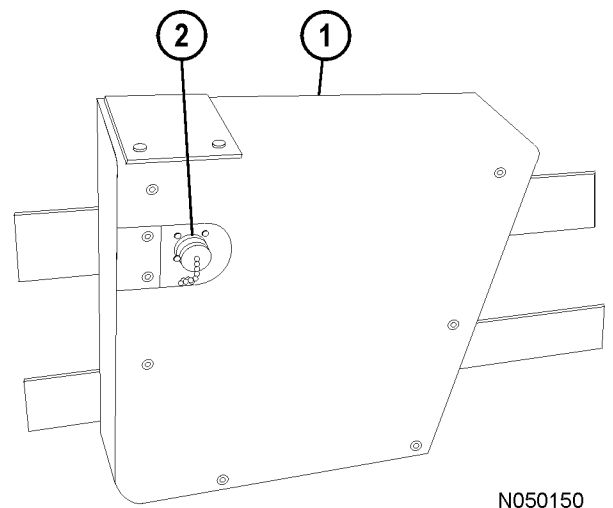

FIGURE 32-9. PAYLOAD METER
Payload meter download connector (2, Figure 32-9) is used with a special cable to allow the payload meter (1) to communicate with a portable computer.